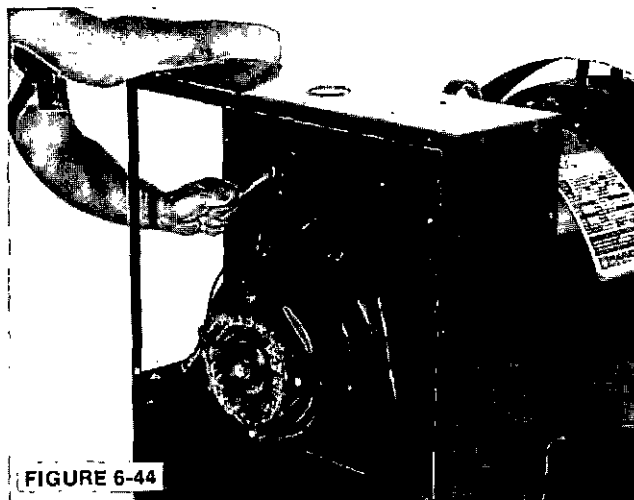

FIGURE 6-44
1. Install the conduit box over the main stator leads. Secure with bolts and lock washers. (Figure 6-44.)